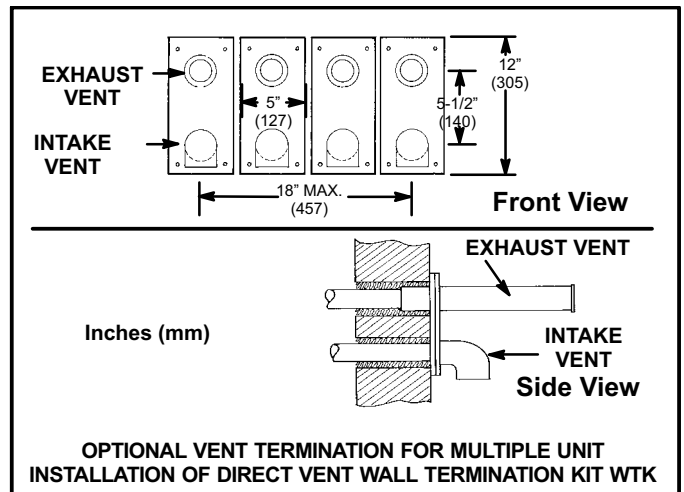

FIGURE 34
9. Based on the recommendation of the manufacturer, a multiple furnace installation may use a group of up to four termination kits WTK assembled together horizontally, as shown in figure 34.